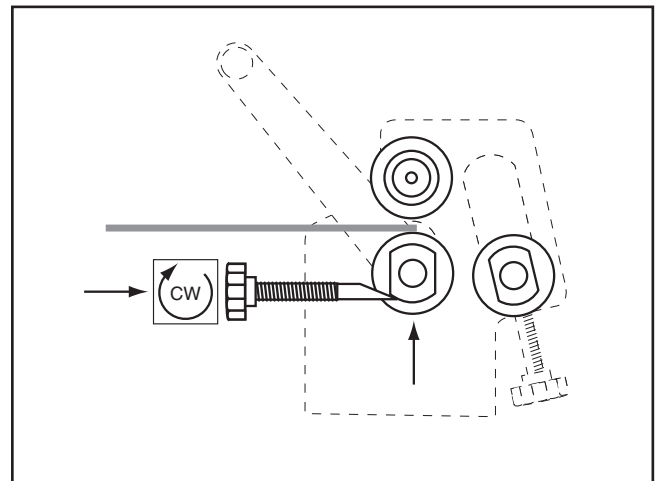

Figure 23. Raising bottom roller.
1. Place the workpiece between the top and bottom rollers, as shown in **Figure 23**. Turn the thickness adjust knobs to lift the bottom roller until the workpiece is held snug between the top and bottom rollers. Be sure to turn the thickness adjust knobs equal amounts.